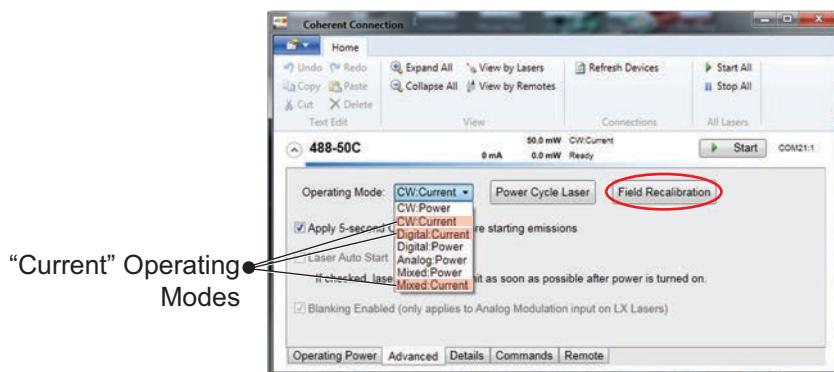

Figure 4-27. Modulation Mode using CURRENT
- This feature must be used **only for** OBIS LX modulation modes with the *current* drive, highlighted in Figure 4-27: